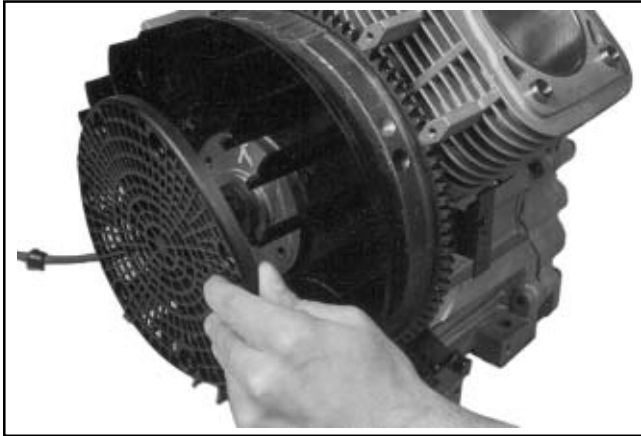

Figure 9-55. Removing Plastic Type Grass Screen.
1. Small metal retainers are typically attached on three of the seven mounting posts for positive retention of the plastic grass screen. Use a hook-end tool next to the post and pull outward to separate each of the small metal retainers. Then unsnap the fan from the remaining mounting posts. See Figure 9-55.